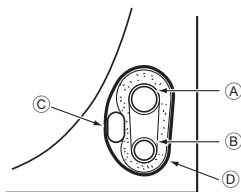

Fig. 4-4
4.4.1. Storing in the piping space of the unit (Fig.4-4)